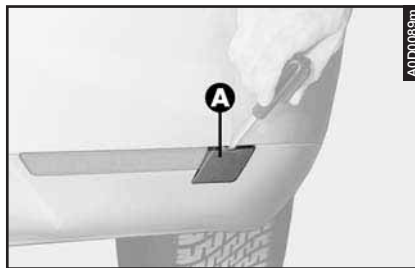

fig. 98
- Remove the cover (**A**-fig. 98) snap-fitted on the rear bumper as follows: